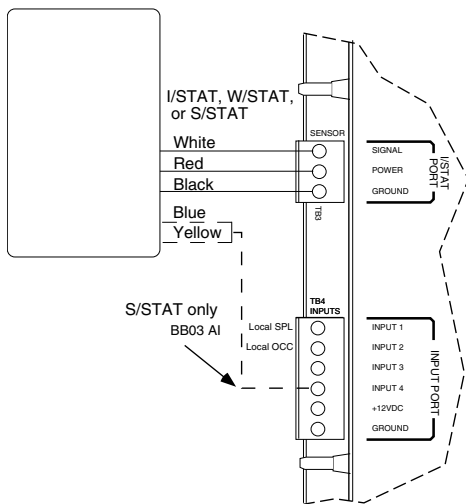

Figure 5. I/STAT, W/STAT and S/STAT Connections
1. Connect the I/STAT, W/STAT, or S/STAT white, red, and black conductors to TB3-1, TB3-2, and TB3-3 (Signal, Power, and Ground) as shown in Figure 5.